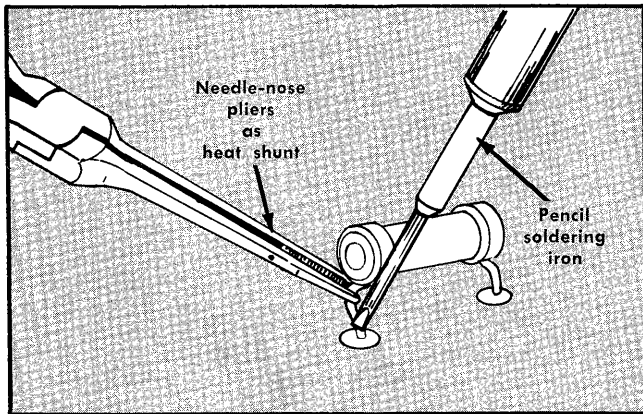

Fig. 4-2. Apply the soldering iron to the heat-shunted lead when removing a component from a circuit card.
**Replacement of other soldered-in components.** Grip the component lead with long-nose pliers. Touch the soldering iron to the lead at the solder connection. Do not lay the iron directly on the board, as it may damage the board. Refer to Fig. 4-2.